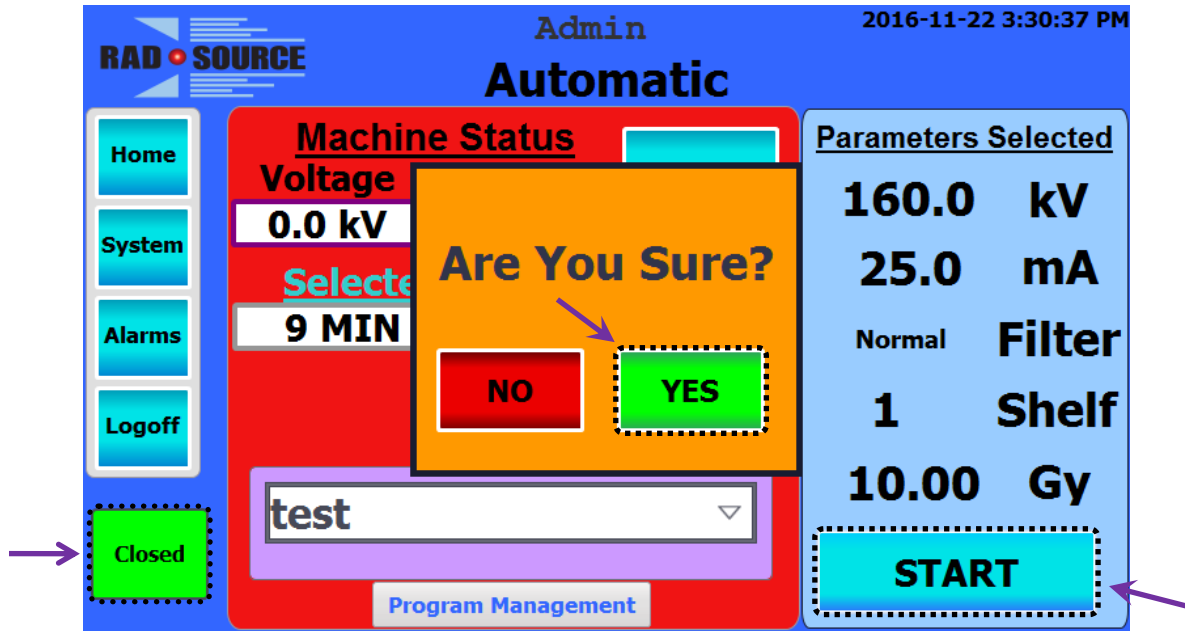

Figure 44: Start & Confirm Automatic Cycle
- Press *Start* and confirm start by pressing the *Yes* button at the prompt. (See Fig. 44.)